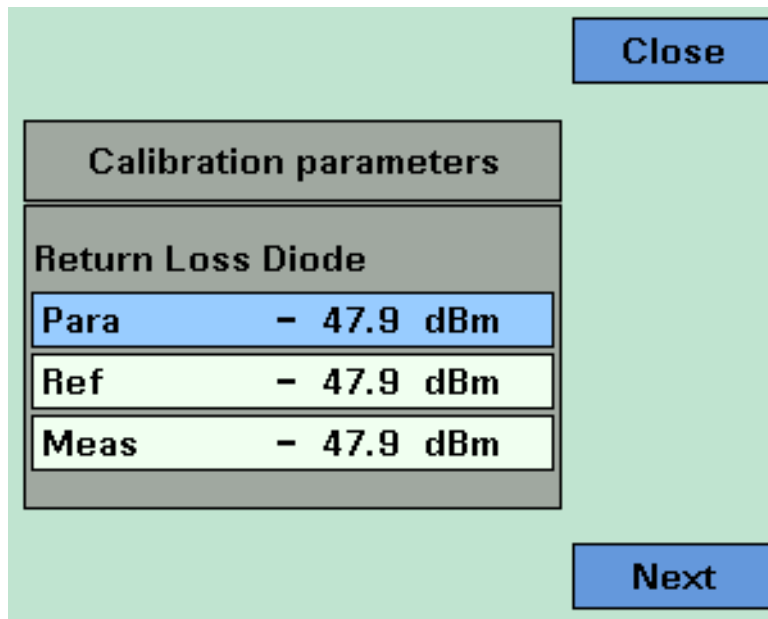

Figure 108 The Calibration Parameters Screens - Return Loss Diode
**1** Press [Menu]. Move to the *<Show calibration>* menu item. The *Calibration parameters* screen for the *Return Loss Diode* appears, as displayed in Figure 108 . This screen shows current value for the following quantities: